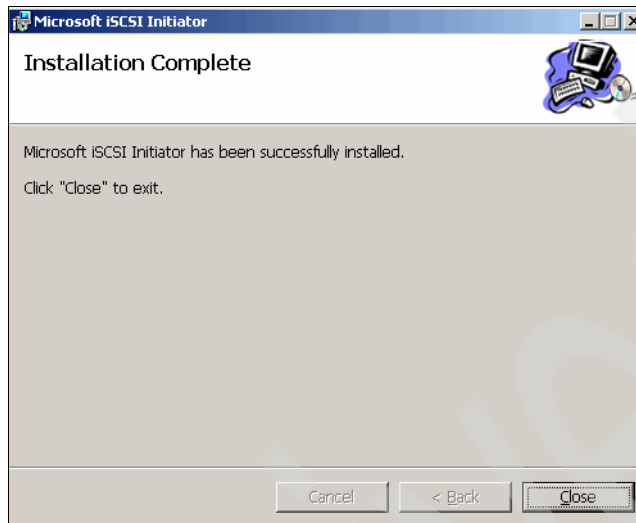

Figure 7-63 Microsoft iSCSI Initiator Installation complete
5. Our installation was successful, so we select **Next**. The following panel, shown in Figure 7-63, states that our installation was successful.